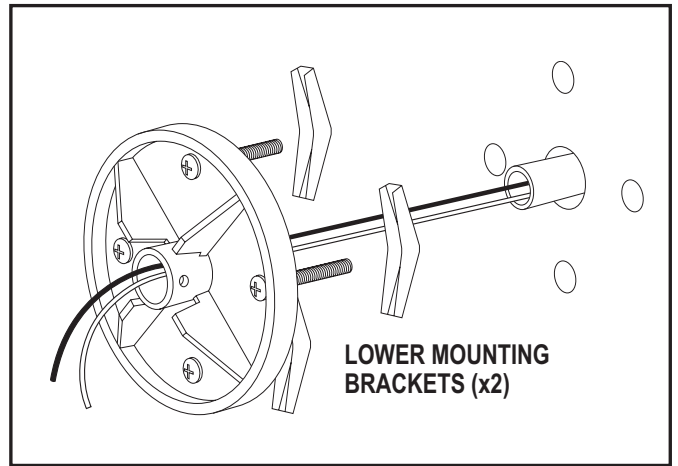

Figure 2
- G. The Towel Warmer is designed to be installed by directly attaching the two lower Mounting Brackets to standard 1/2" electrical conduit using the small screws on the bracket. The toggle bolts are then used to secure the bracket to the wall (Fig 2). The conduit must be installed so that it aligns with the center holes of the lower Mounting Bracket locations, as indicated on (Fig 1). The conduits should protrude a minimum of 1" and no more than 1 1/2" from the finished wall surface. Make sure the conduit is level and plumb across the centers of the protruding ends.